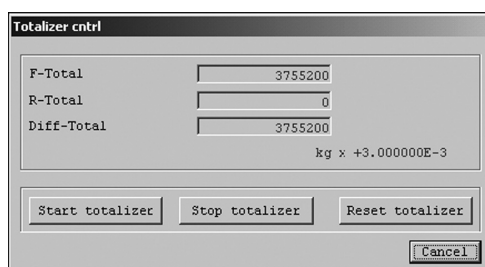

Fig.18
④ To hide the message box for process variables, click on "Cancel".
- ① Click on "Process Variable (V)" at top-level menu on the screen, select "Totalizer cntl", and click on again. A message box for measuring the total flow appears as shown in Fig. 18.